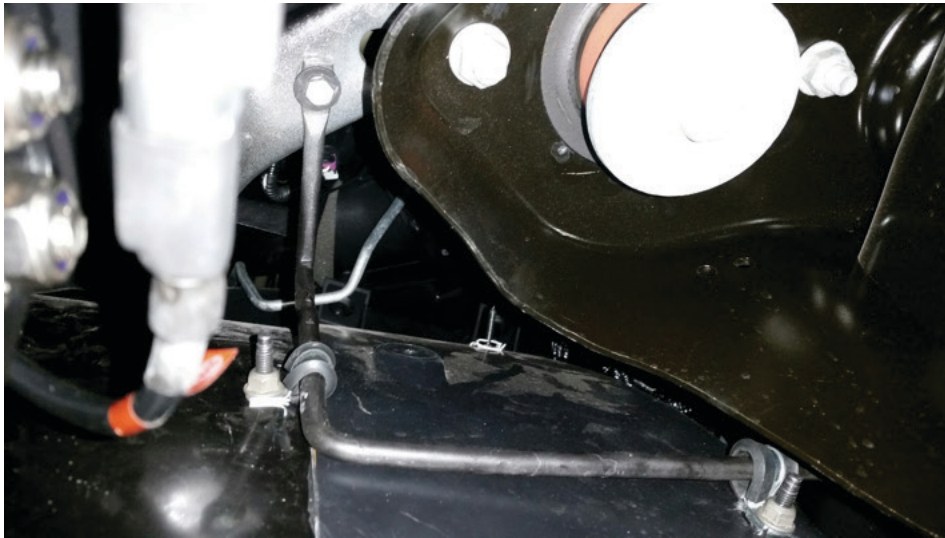

Figure 41
- K. Fasten liner to rod with second p-clip, M6 button head bolt, M6 nut, washer, and locking nut (fig. 41).